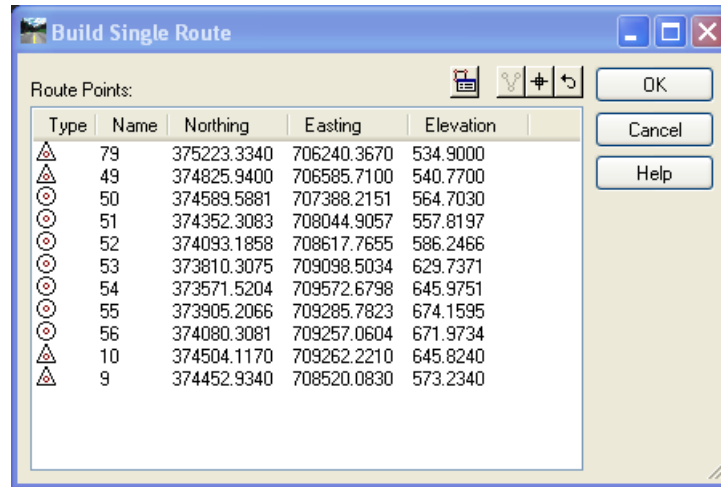

Figure 2-7 InRoads Build Single Route Dialog Box
- C. The **Build Single Route** box, Figure 2-7, will appear and show you the data for the traverse. Notice that the fixed points are symbolized with a triangle and the computed points are circles. Click **OK**.